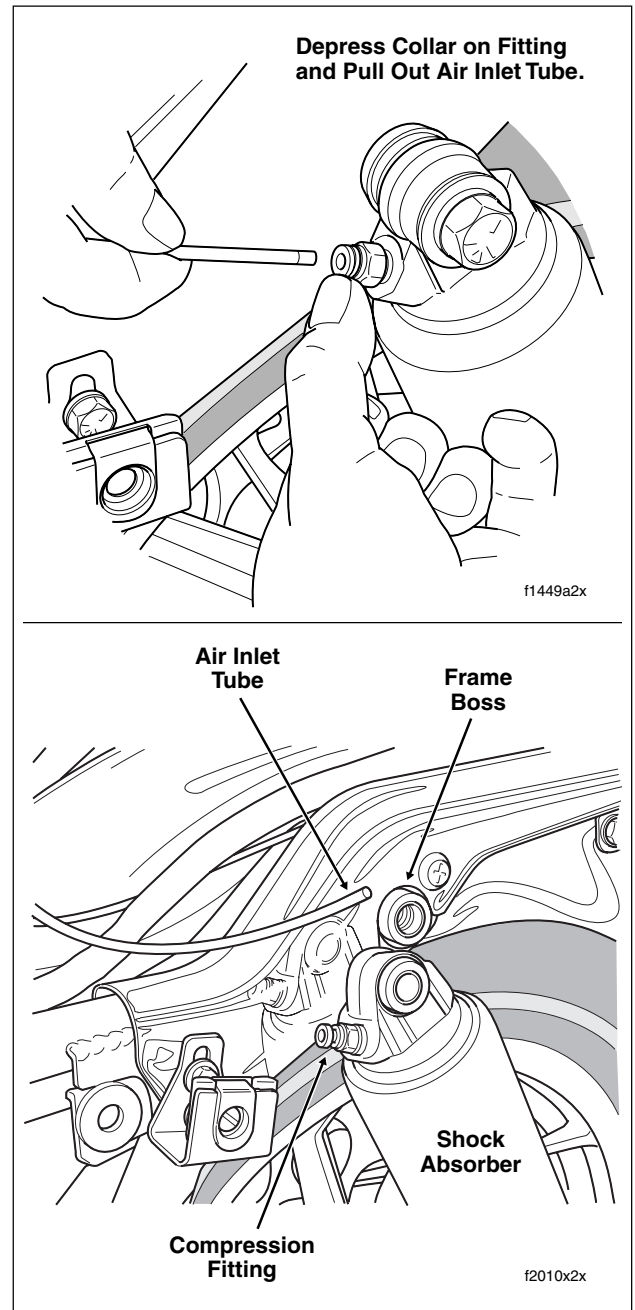

Figure 2-96. Remove Air Inlet Tube and Upper Shock Mounting Bolt (Left Side View)
5. Depress collar on compression fitting to release air tube. See upper frame of Figure 2-96.
6. Remove the upper shock mounting bolt with lockwasher and flat washer. See lower frame of Figure 2-96.